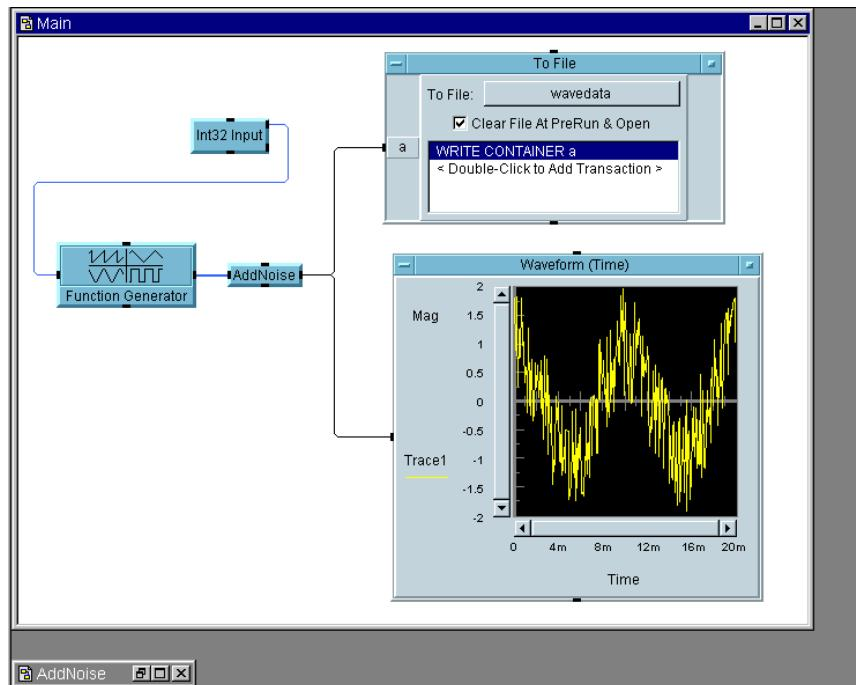

Figure 2-11. Adding a To File Object
4. Connect the data output pin of the AddNoise UserObject to the data input pin of To File. The program should now look like Figure 2-11.